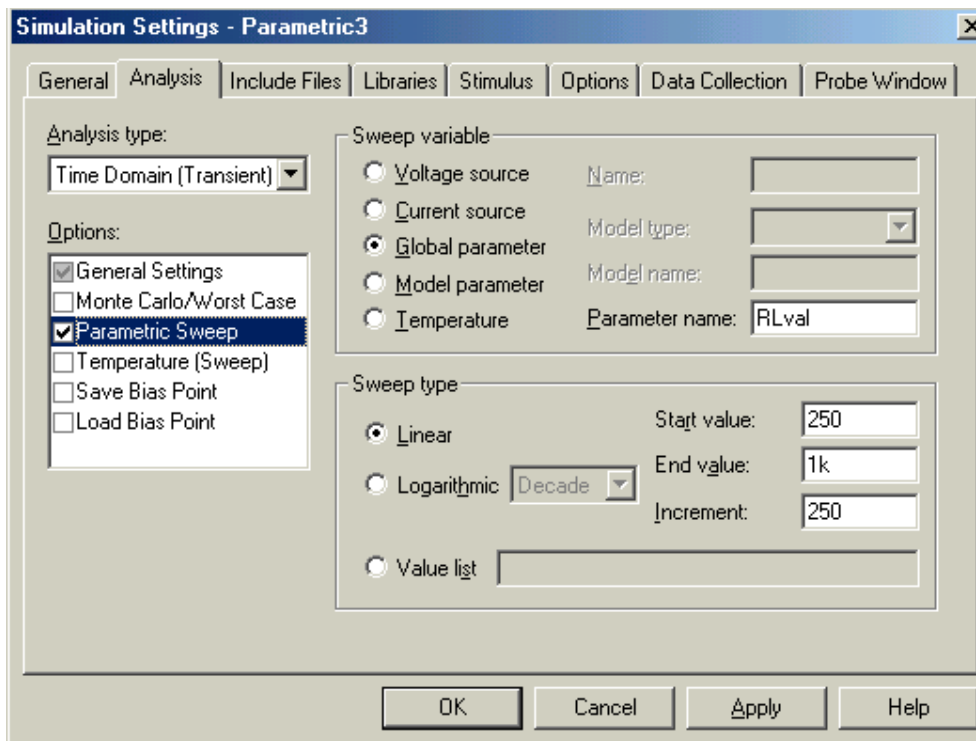

Figure 3.4.5: Window for the Simulation Settings of the Parametric Sweep.
- e. Under Option, select Parametric sweep as shown in Figure 3.4.5.
- f. For the Sweep Variable, select Global Parameter and enter the Parameter name: RLval. Under sweep type give the start, end and increment for the parameter. We'll use 250, 1kOhm and 250, respectively (see Figure 3.4.5).